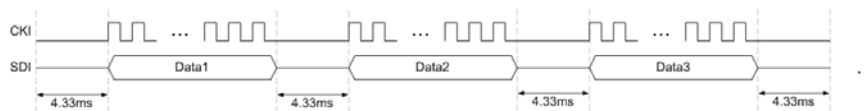

Figure 21. The Diagram of prefix is 4.33ms
From equation (3), $T_{d0} = 16.67ms - 1us \times 48 \times (4 \times 64 + 1) = 4.33ms$. The time is larger than the time of $172 \times 1us = 172us$. The data stream can be recognized, as shown in Figure 21.